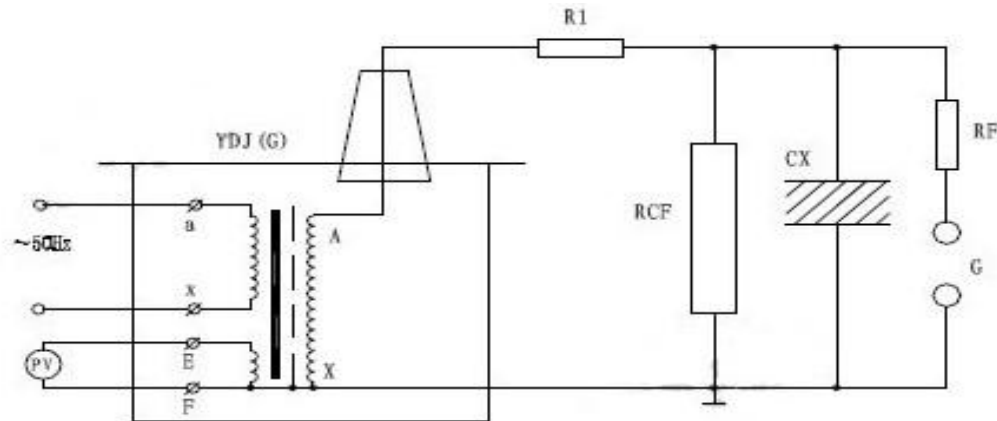

Figure 6
A. YDJ power frequency voltage test wiring diagram is shown in Figure 6.
In the power frequency voltage withstand test, the LV side measuring voltage (meter voltage) is not very accurate, because there exist leakage reactance, so as well as voltage drop or capacitive rise, causing the voltage on the test sample lower or higher than the value reflected on LV side measuring meter. To accurately measure the test voltage applied, RC divider is often used in the HV side for measuring the voltage (Figure 6).